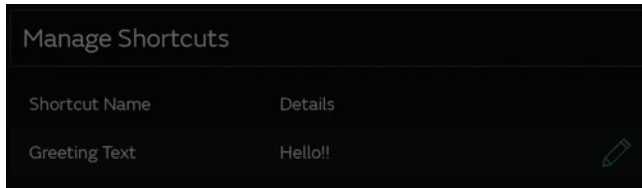

Figure 27. Existing Shortcut list
3. From the Shortcut list (Figure 27) tap the **Shortcut** to be changed.
1. From the Shortcut list (Figure 27) tap the **Shortcut** to be changed.